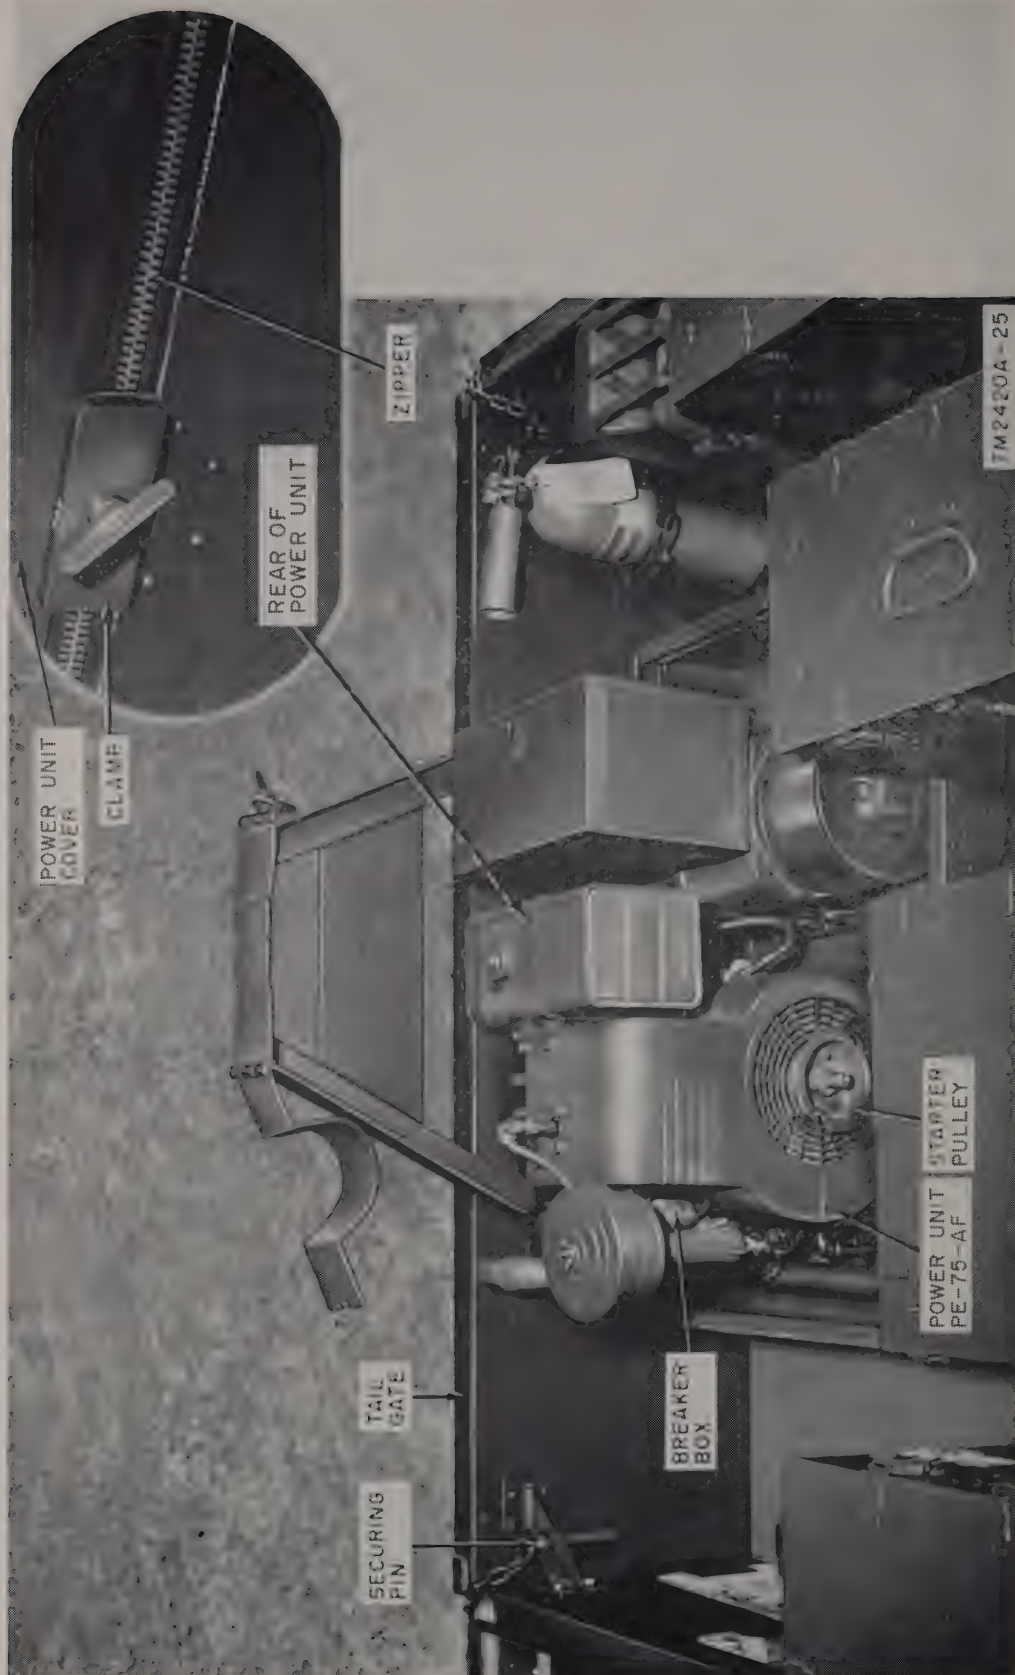

Figure 13. Power Unit PE-75-AF, mounted in trailer.
21. Preparing Power Unit PE-75-AF for Operation (fig. 13)
Starter pulley (fig. 13)	A notched reel upon which starting rope is wound. When rope is pulled, starter pulley rotates to start power unit.